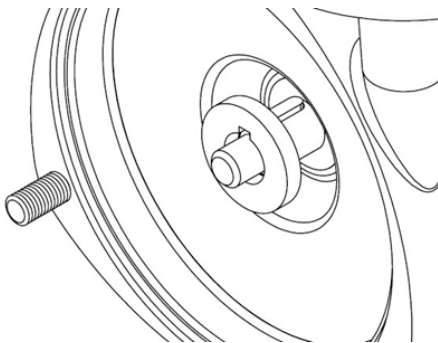

Figure 14
6. For SB Blenders install the shim as in Figure 14